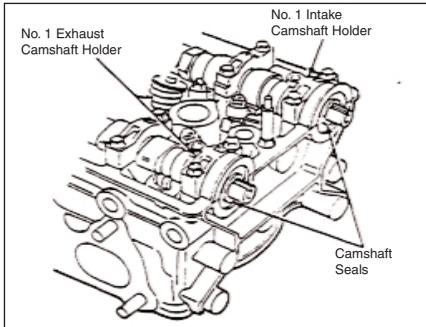

Figure 1 Clean the camshaft holders and camshaft oil seals on Acura B18A engine.
2) Remove the No. 1 intake and exhaust camshaft holders and remove camshaft oil seals. See **Figure 1**, page 18.